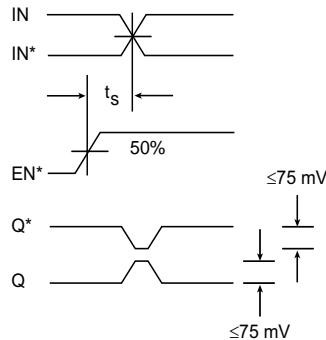

Figure 1. Setup Time
9. The setup time is the minimum time that EN^* must be asserted prior to the next transition of IN/IN^* to prevent an output response greater than ± 75 mV to that IN/IN^* transition (see Figure 1).